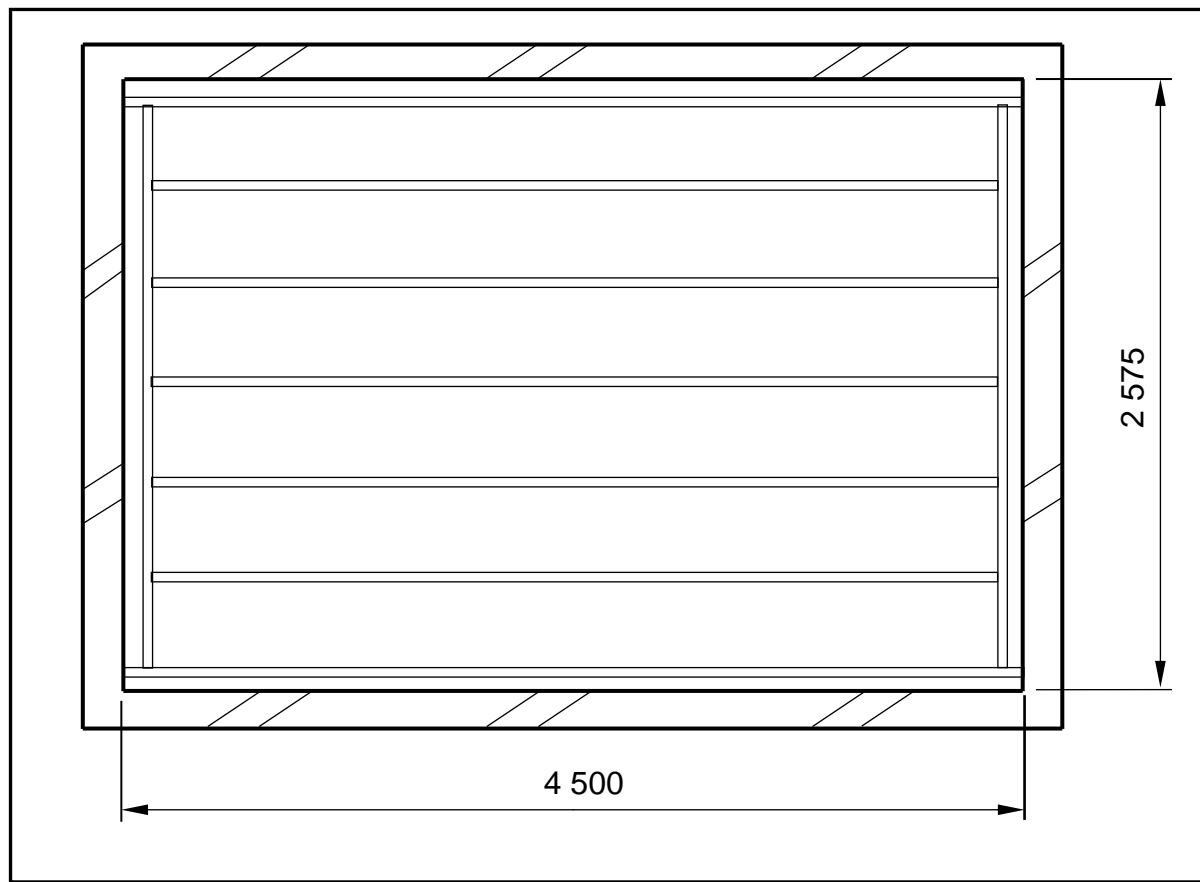

FIGURE 4.5
- 4.5 FIGURE 4.5 on the next page shows the brndering layout of a ceiling construction and the four walls. Study the drawing and complete the incomplete cutting list. Write down the answer next to the question number (4.5.1 to 4.5.7) in the ANSWER BOOK.